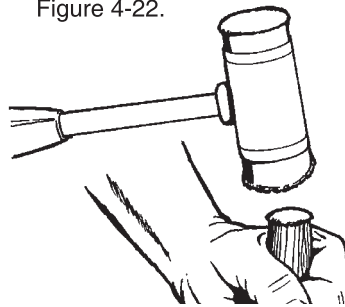

Figure 4-22
2. Place the shaft with either bearing resting on top of the jaws and gently tap on the end of the shaft until the bearing is removed. Refer to Figure 4-22.